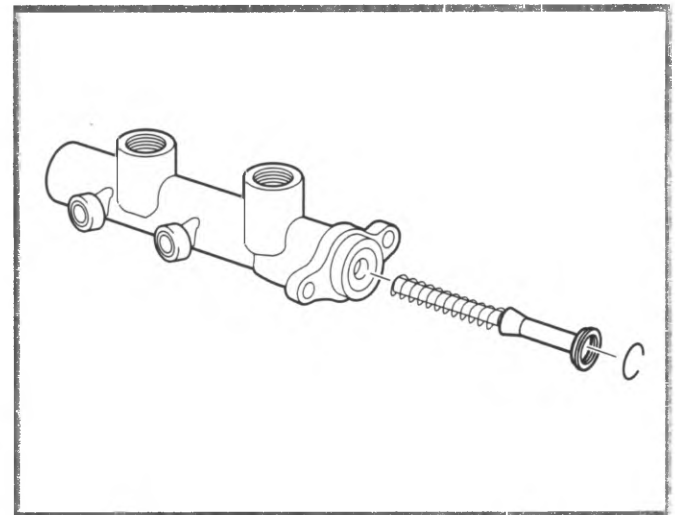

Figure 4-9, Remove Primary Piston
7. Remove the primary piston assembly from the master cylinder body (figure 4-9).